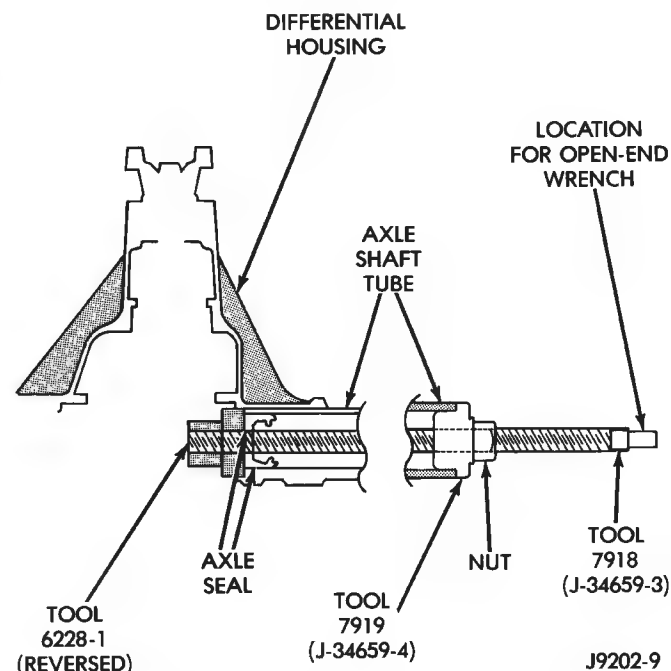

Fig. 26 Left Side Seal Installation
- (2) Install the inner axle seal on Tool 6228-1 (Fig. 26).
- (3) Thread the **reverse** side of Installer 6228-1 tightly onto the threaded rod tool (Fig. 26).
- (4) Press the seal into position.